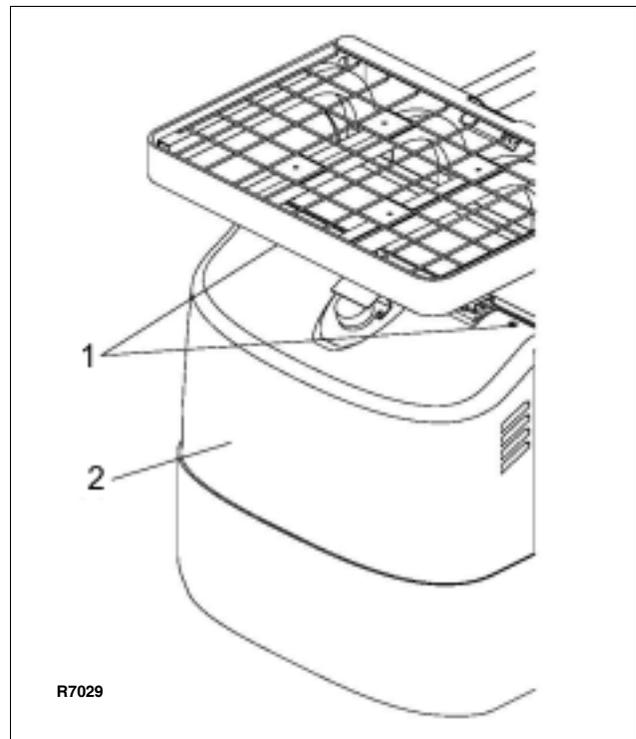

Figure 4-2 Compartment Cover
2. Remove two screws (1, Figure 4-2).
3. Carefully lift cover (2) up and off the truck.
1. Carefully position cover (2, Figure 4-2) on the truck.
2. Install two screws (1).